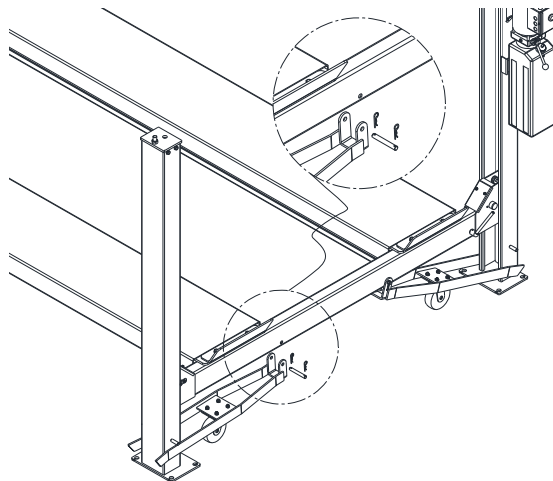

Fig 27 – Mobility Kit
- 1) This set of four casters when attached to the cross beams of an unloaded lift, **Fig 27**, pick the lift up and allow it to be rolled to a different location.